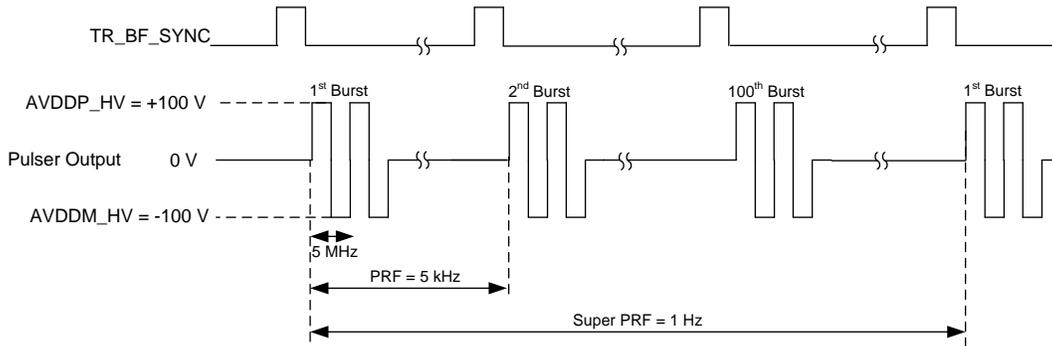

Figure 95. Color Noise Experiment Waveform
- c. Device is configured to generate the waveform as shown in Figure 95.